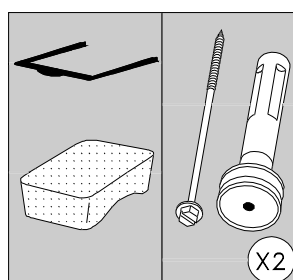

Fig 5
- Please ensure that these parts have been removed from the machine and keep them in case of next transport (fig. 5).